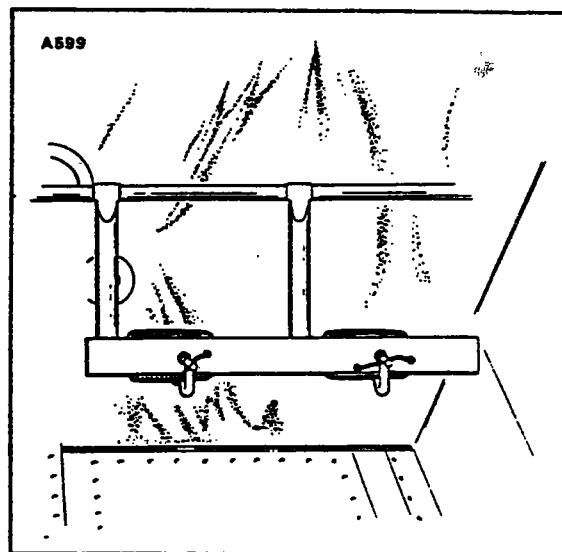

Figure 5-15. Clamping Rudder Pedals
3. Clamp the rudder pedals to align in a lateral position as shown in Figure 5-15.